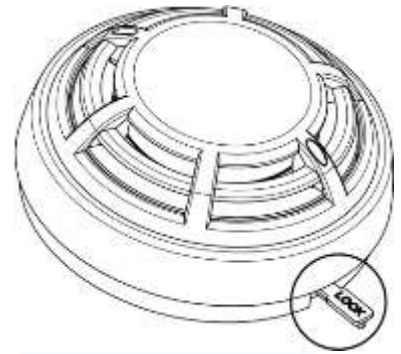

Fig.4
- If the detector is locked to the base, to unlock it, insert first the key to the specified location(Fig. 4) and rotate the detector counterclockwise;